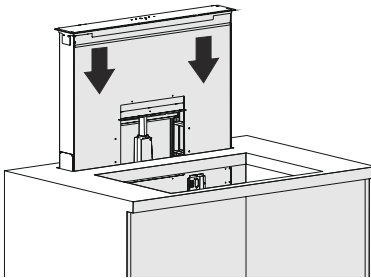

Fig. 13
3. ➤ ■ Place the hob carefully inside the discharge that you have prepared on the kitchen counter (Fig. 13).